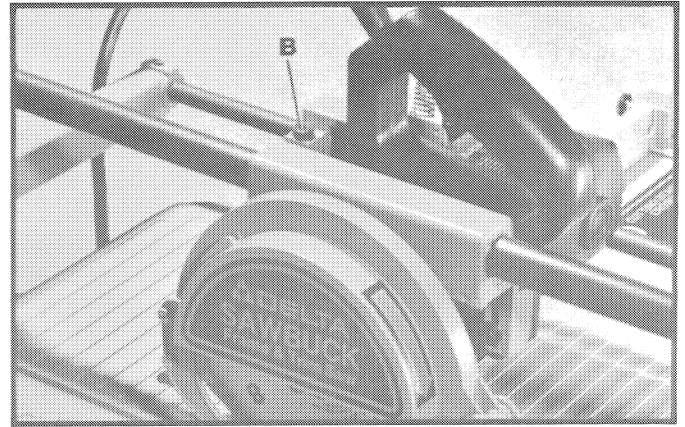
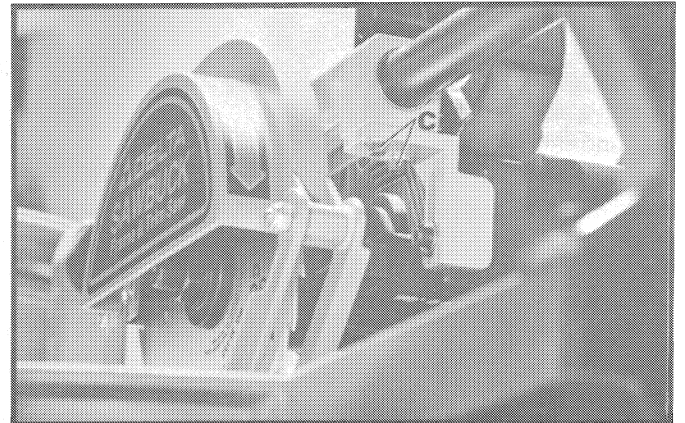

Fig. 37
Fig. 38
4. If an adjustment is necessary, loosen screw (B) Fig. 37, and two screws (C) Fig. 38. Shift motor and blade assembly until the blade is at 90 degrees to the fence and tighten the three screws (B) Fig. 37 and (C) Fig. 38.